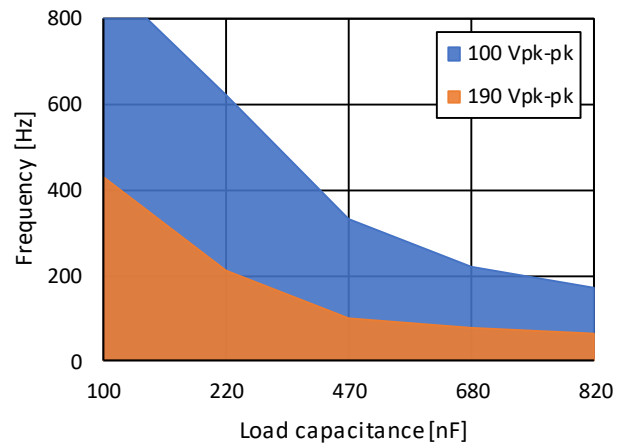

Figure 14: Recommended operating area (THD ≤ 1%)
(1) If Unidirectional Power Input mode is enabled (bit UPI set to 0x1), VDD may increase above the maximum recommended operating condition, see section 6.2.10.
(2) Digital I/O voltage (VDDIO) must match with master SPI interface voltage (MCU).
(3) See Figure 14 for recommended signal frequency and amplitude over load capacitance.